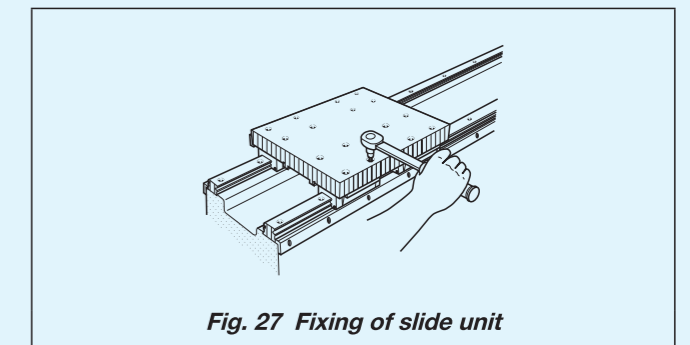

Fig. 27 Fixing of slide unit
- Move the table ensuring smooth motion status, and fix the Linear Way II slide unit. (See Fig. 27)